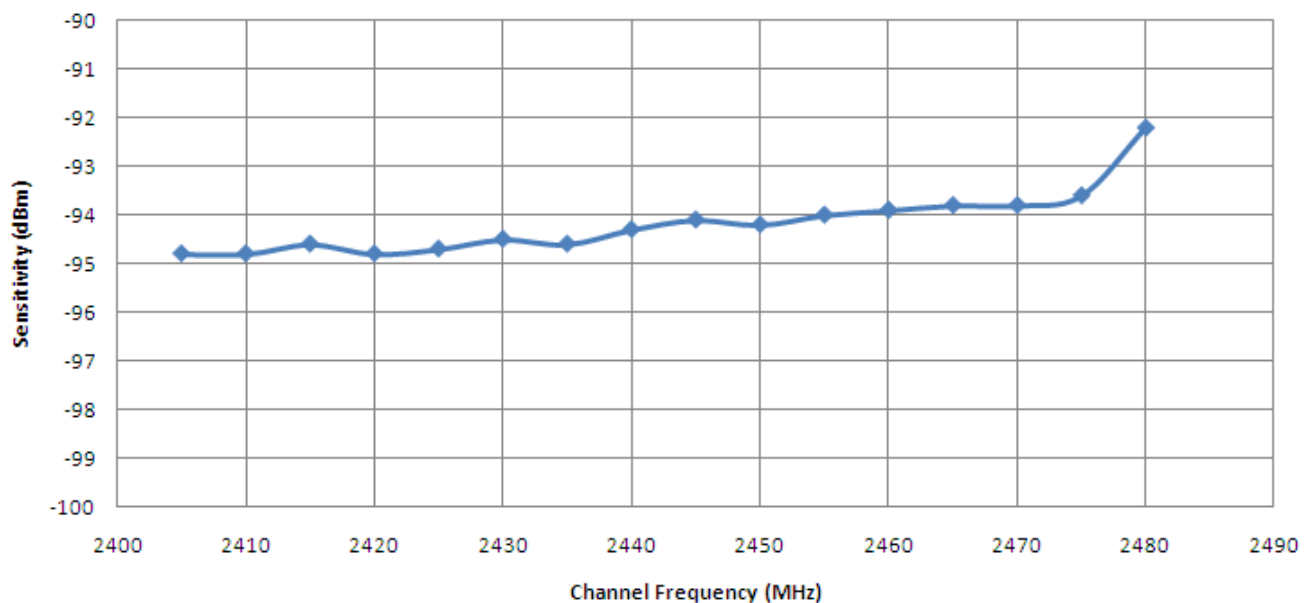

Figure 4. Typical RX Sensitivity vs. Channel Frequency @ 25°C
- ¹ Measured at f_c = 2450 MHz; see Figure 4 for RX performance vs. channel frequency